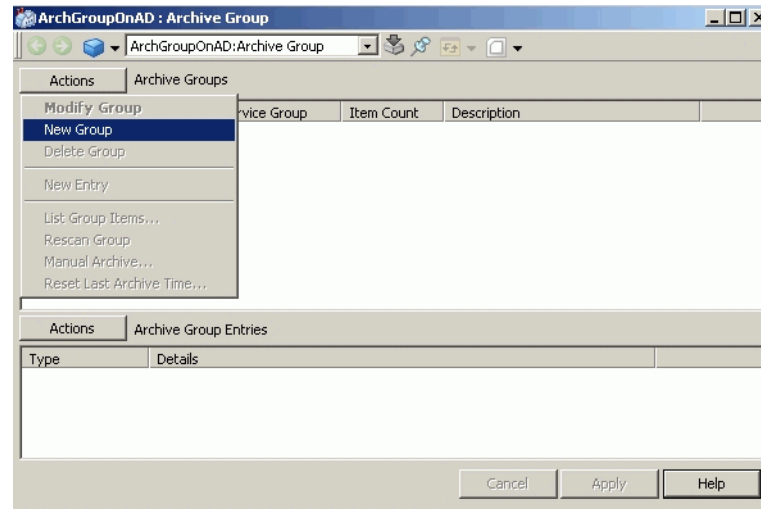

Figure 54. Adding an Archive Group
1. Right click inside the archive groups window (or click **Actions**) and choose **New Group**, Figure 54.